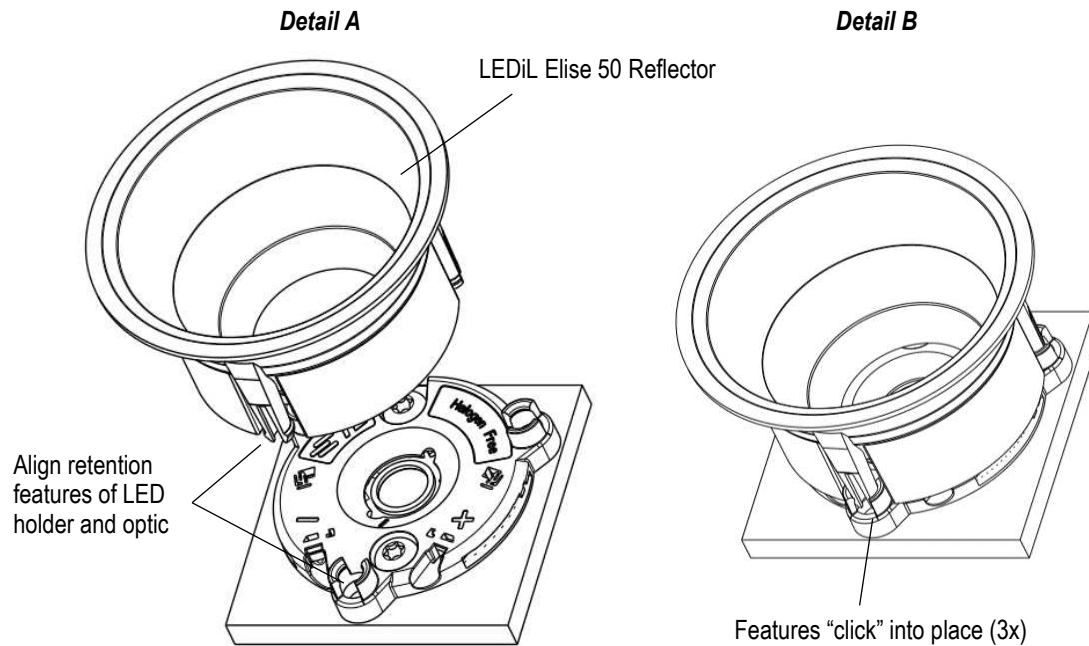

Figure 5
1. Align the reflector mating features with the LED Holder Reflector snap in feature (3 total) and snap in the reflector vertically into the LED holder. Push the reflector in until an audible “click” is observed, or the reflector sits flush against the LED Holder. See Figure 5, Detail A and B.